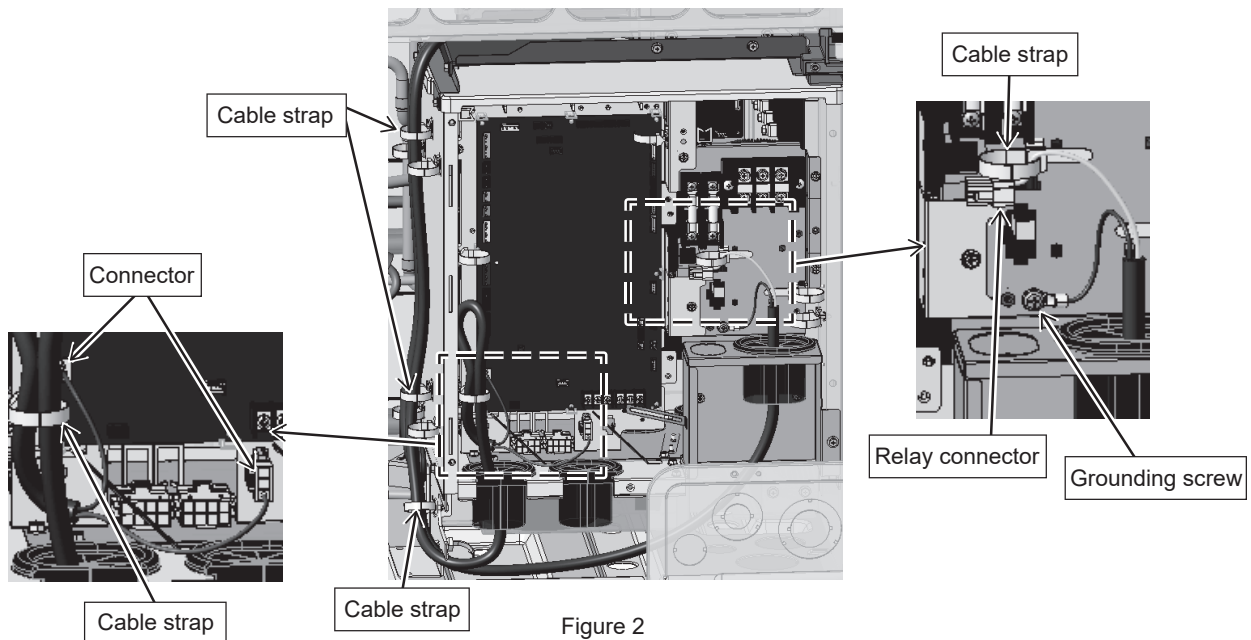

Figure 2
- (3) Unstrap the cable straps holding the transformer box wiring, and disconnect the wiring connectors and the grounding wire. (5 cable straps, 3 connectors, and 1 grounding screw as shown in Figure 2.)